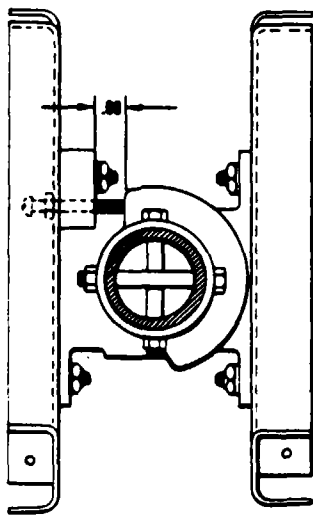

Figure 27-23. Flap Step Adjustment
3. If required, adjust the flap up stop and step lock, loosen the jam nut of the right torque tube stop screw, located in the floor opening along the outer end of the flap torque tube, and turn the stop screw to obtain approximately .60 of an inch between the stop fitting and the bearing block as measured along the top side of the screw. (Refer to Figure 27-23.) It may be necessary to loosen the adjustment screw of the left stop.